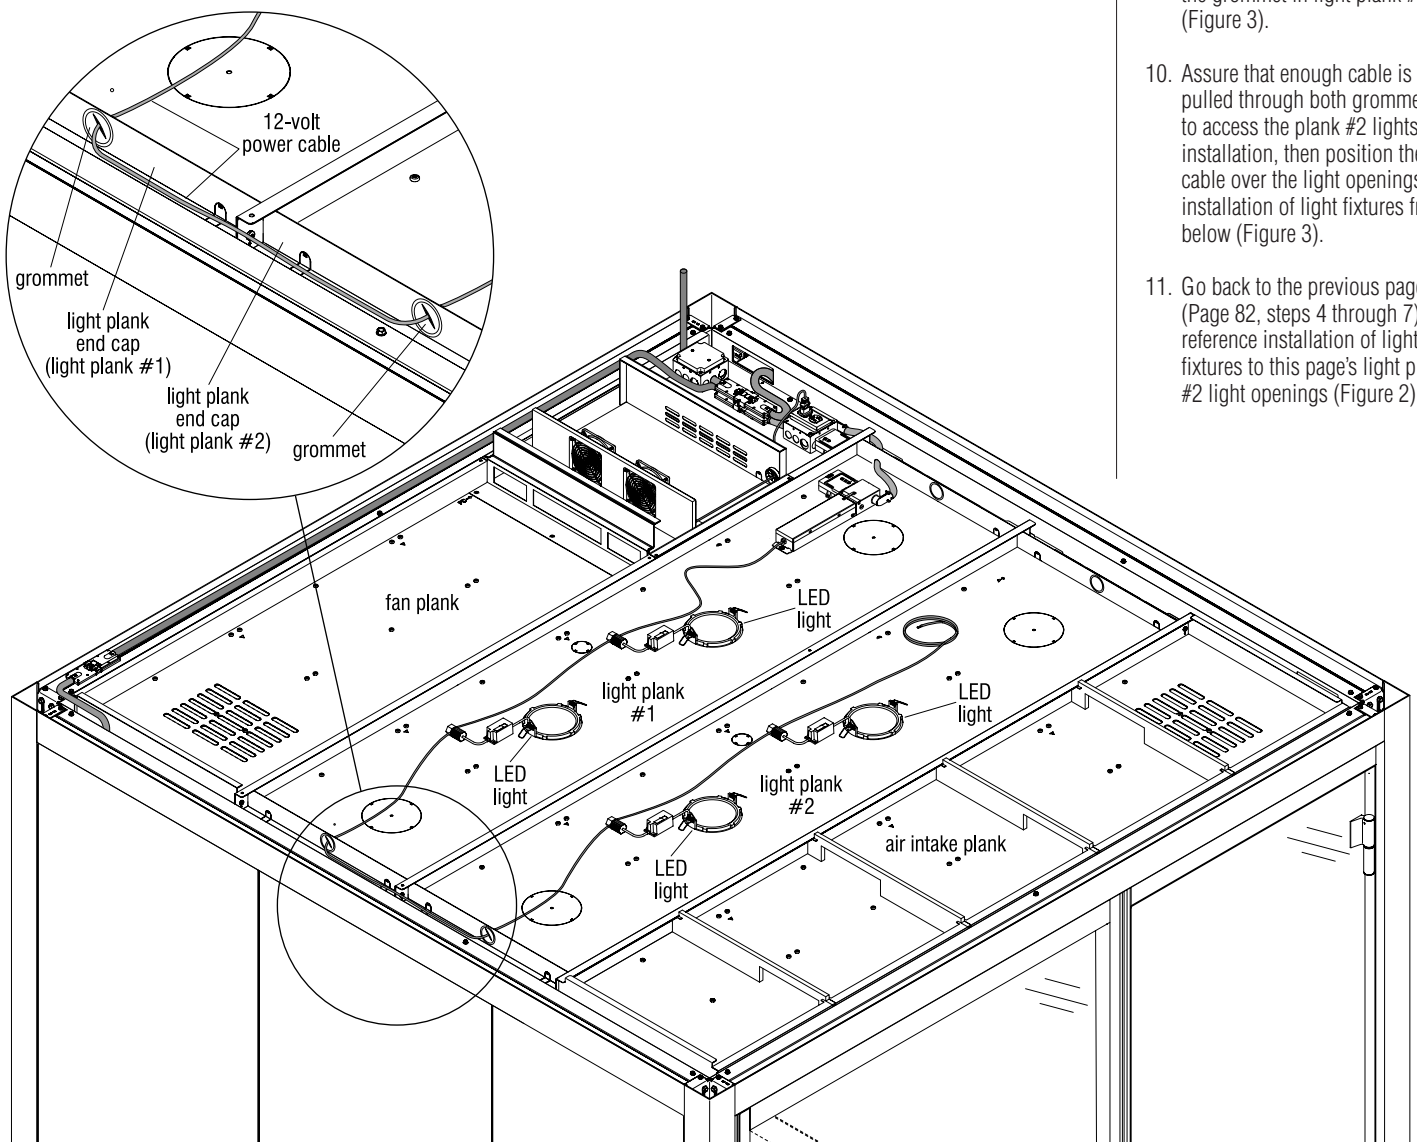

Figure 3
9. From above the ceiling of the super structure, at the end of two light planks, take note of the grommets at the ends. Use a knife and cut a slit in each grommet, to allow the 12-volt power cable to pass from one light plank to another. Pull the power cable out through the grommet in light plank #1, along between the light plank ends and the beam and in through the grommet in light plank #2 (Figure 3).
10. Assure that enough cable is pulled through both grommets to access the plank #2 lights installation, then position the cable over the light openings for installation of light fixtures from below (Figure 3).